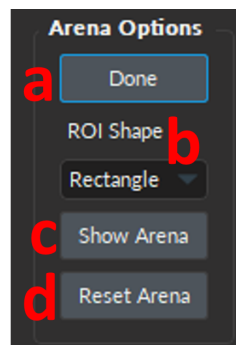

Figure 11.8: Animal Tracking window, Arena Options
- a) The **Draw Arena** button (Fig. 11.8, a) when selecting will allow users to draw a shape on a still frame of the video to define the part of the image that corresponds to the animal arena. This selected element will serve as the background for the moving animal. Once selected the **Draw Arena** button become a **Done**, which must be selected to save the current arena area for the algorithm.
- b) The **ROI shape** drop-down menu (Fig. 11.8, b) set the geometrical shape that will be used when drawing the arena area. User can select between: *Freehand*, *Rectangle*, *Circle* or *Square*.
- c) The **Show Area** button (Fig. 11.8, c) will blackout the part of the video that isn't contained within the user-defined arena.
- d) The **Reset Area** button (Fig. 11.8, d) will remove the video blackout that designates the arena in order to redraw the shape.